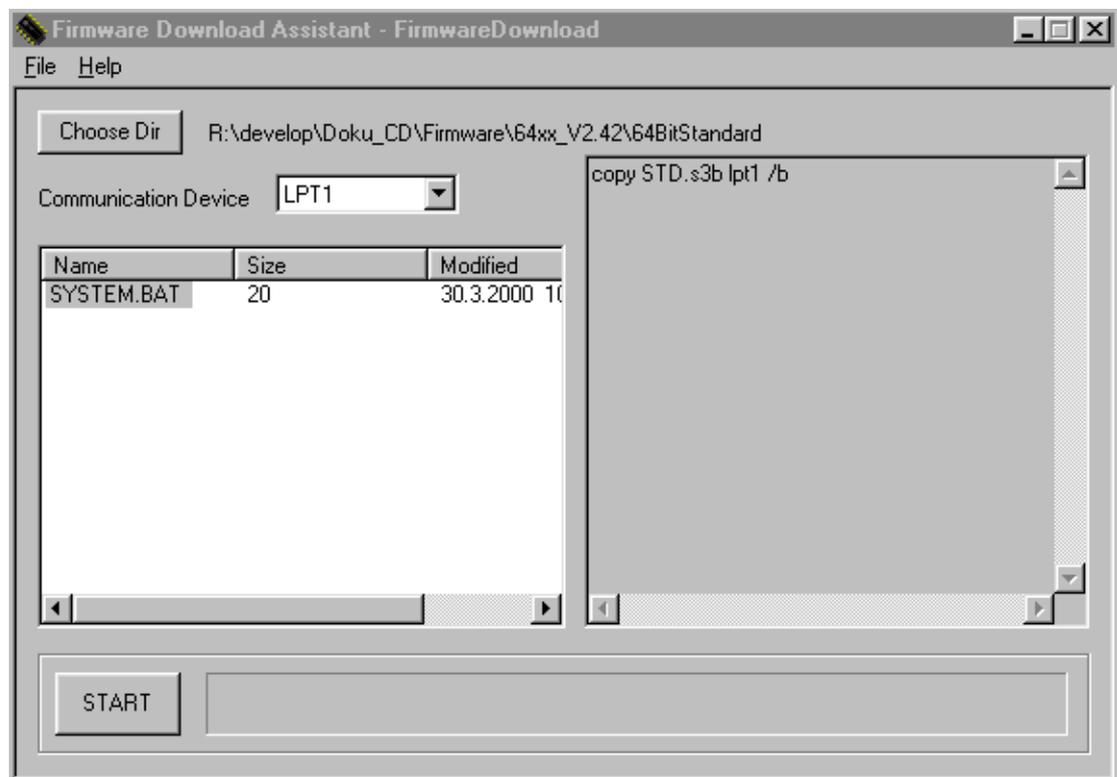

Fig. 6: Program window of „FirmwareDownload“ - here you can select the appropriate batch file and start the download process.
1. The setup program places an icon on the Windows desktop (see Fig. 5). Click on the icon to start the program. The program window opens (see Fig. 6)
2. Click on „Choose Dir“. A file selection window appears. Open the folder which contains the firmware files and click on the file „System.bat“. The so marked file appears in the left half of the program window (see Fig. 6).
4. Click on the batch file in the left part of the program window (see Fig. 6). The command lines contained in the batch file now appear in the right part.